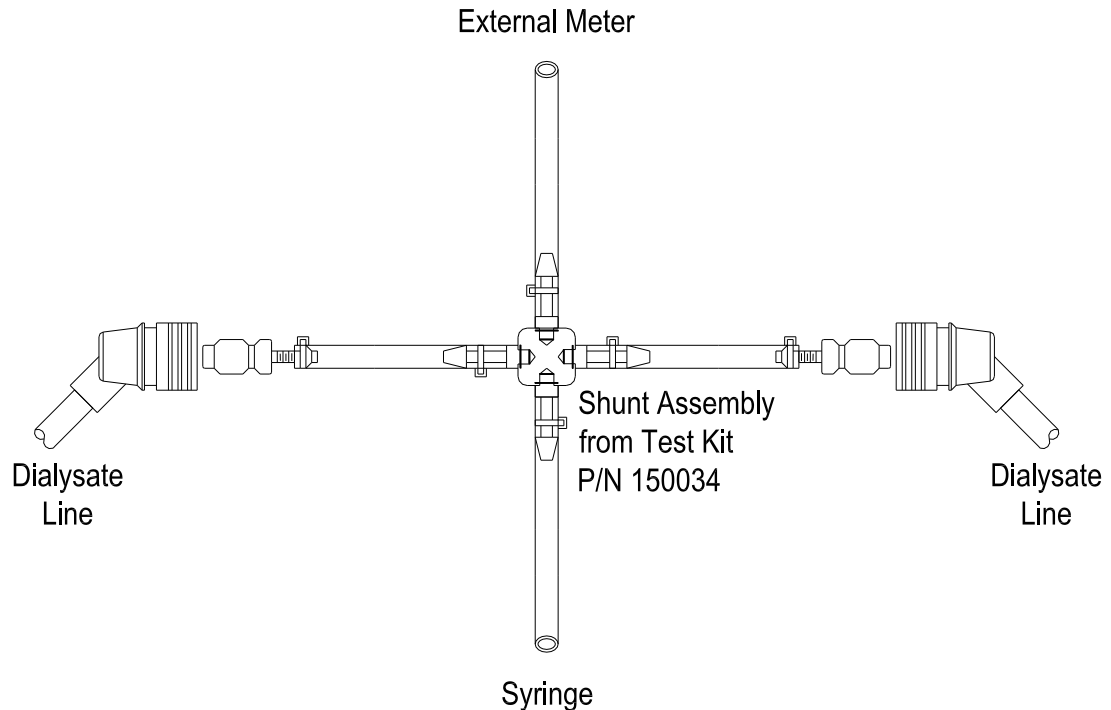

Figure 2
2. Attach the dialysate line quick connects to a shunt assembly with an external pressure meter and a 60cc syringe as illustrated in **Figure 2** below.